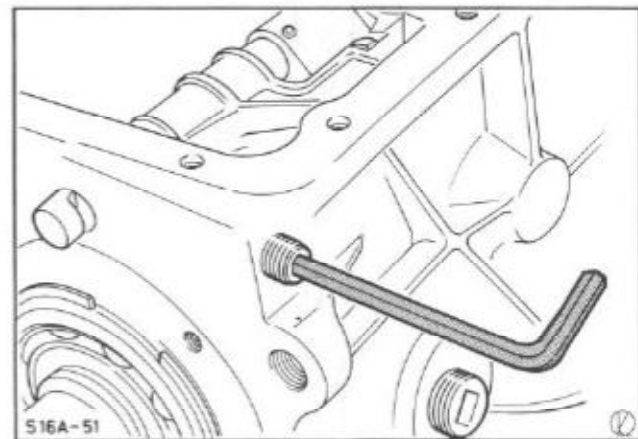

Fig.6. Screw in locking pin with spring.
18. Insert locking pin and spring in side of transmission housing, Fig.6. Apply prescribed sealing compound and secure cap screw of selector shaft locking mechanism.